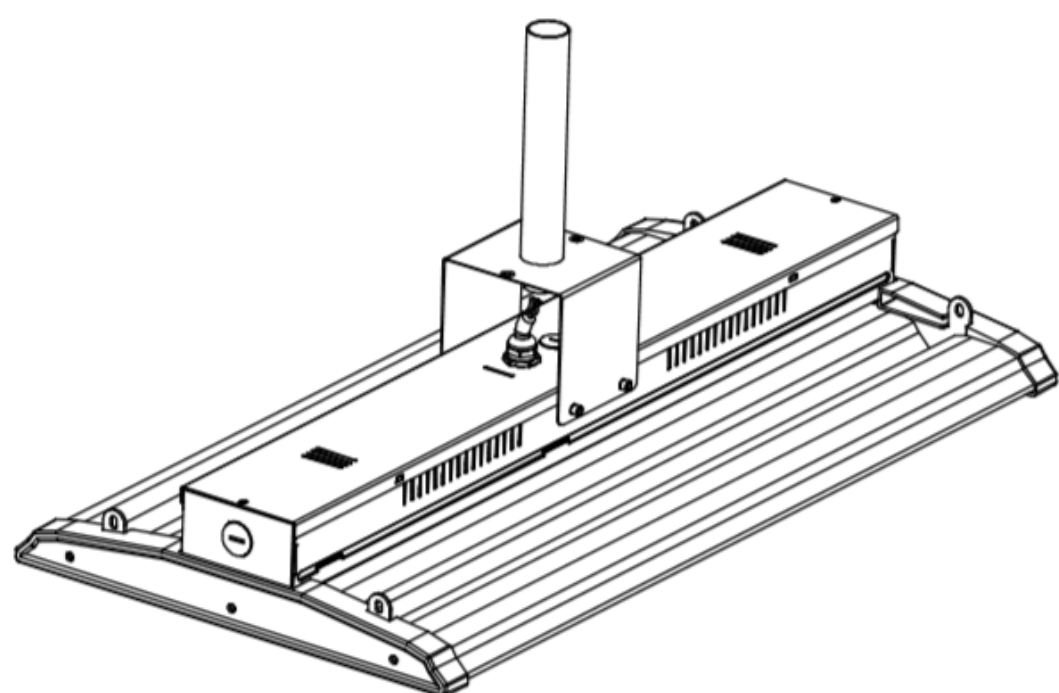

Figure 4
Step 3: Lock the junction box by nut and connect AC power wire (Figure 4)